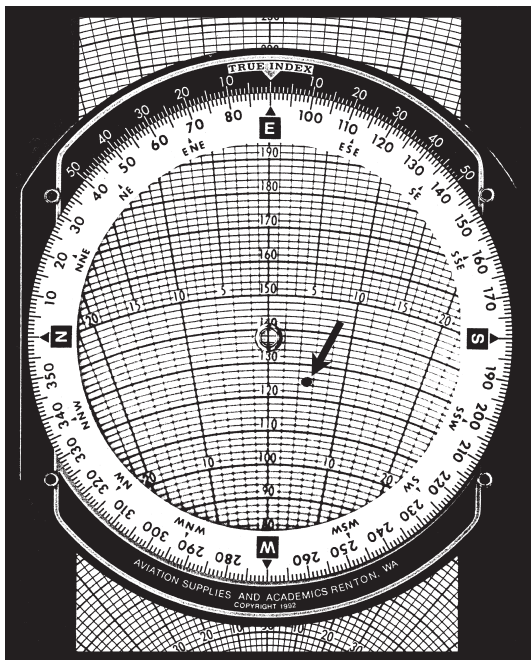

Figure 23
4. Move the slide until the wind dot falls on the arc for 125 knots (see Figure 23 on Page 32).